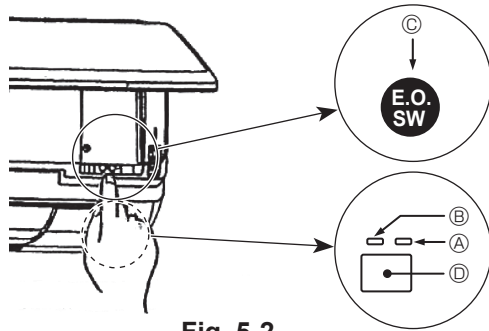

Fig. 5-2
- To stop operation, press the ⚙ button ③ or the ⚙ button ④ for more than 2 seconds.
[Fig. 5-2] ① DEFROST/STAND BY lamp (Orange)